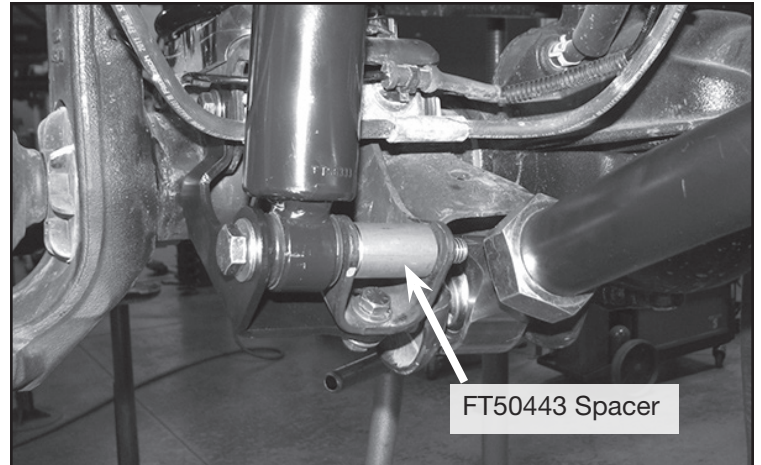

FIGURE 18 - STEP 18
18. **(Lower Shock Mount)** Install the shock to the lower mount using the supplied 1/2" X 4-1/2" bolt and hardware as well as the FT50443 (Spacer) in the factory location. Torque to 106 ft-lbs. **SEE FIGURE 18**